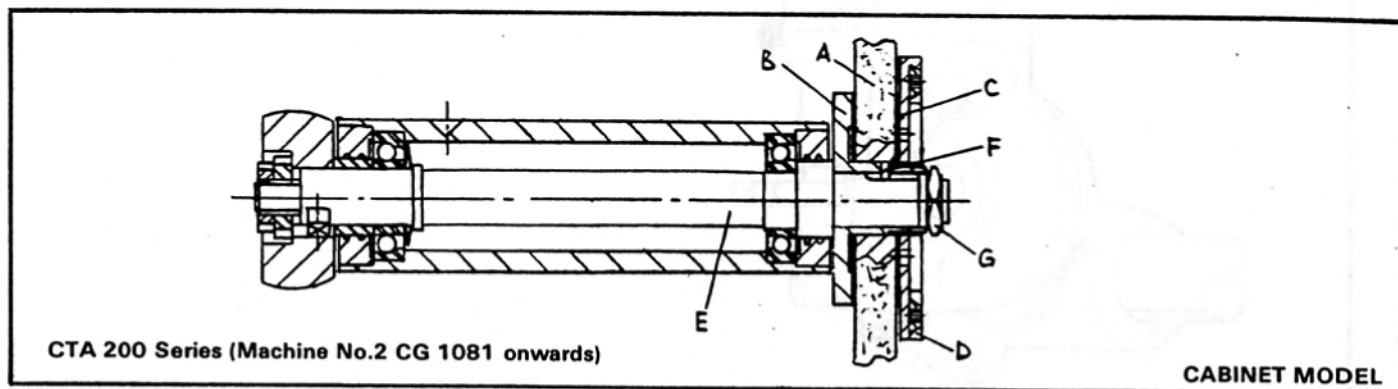

FIG. 37
Cabinet Type (Fig. 37)
Place the wheel (A) (Fig. 37) complete with cardboard washers on the flange (B) (Fig. 37). Fit the tab washer (C) (Fig. 37) and secure the assembly with the threaded flange plate (D) (Fig. 37). Assemble the complete wheel and flange unit to the spindle (E) (Fig. 37) and make sure that the locating pin (F) (Fig. 37) is properly seated in the machined slot in the spindle (E) (Fig. 37). Secure with the hexagonal nut (G) (Fig. 37).